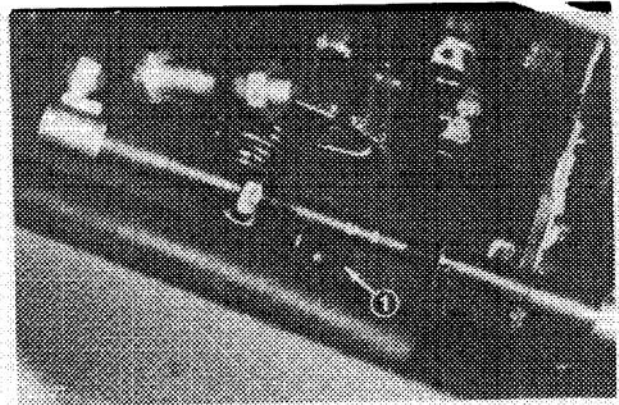

Figure 24
**Engine Stop Lever (Fig. 24)** — Located on the lower right side of the engine inboard of the air cleaner assembly. Provided as a means to stop the fuel flow, thereby stopping the engine, if an electrical malfunction should occur. Use only for emergencies.